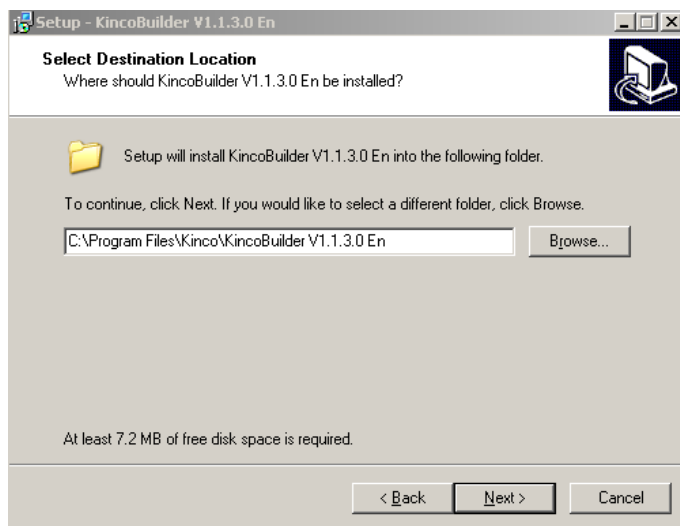

Figure 3-2
② Click *Next*, continue to select the path. You can either choose the default path or modify it, as shown in Figure 3-2.